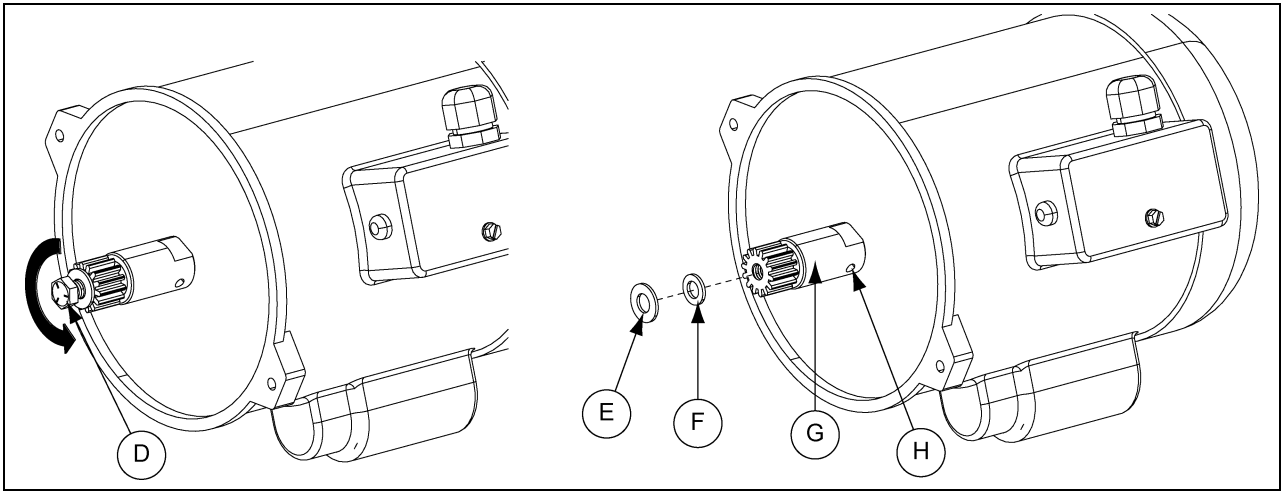

Figure 5U
2. Un-install the bolt (D) from the pinion shaft. Remove the washers (E and F) and the set screw (H) from the pinion shaft (G). *(See Figure 5U.)*